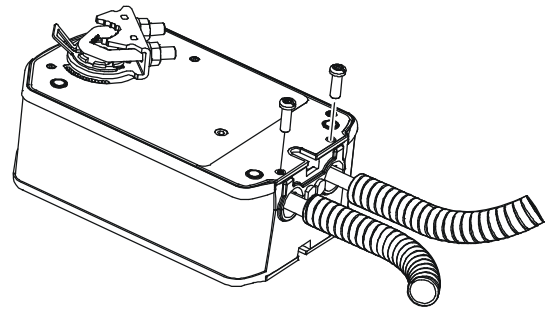

Figure 12: Adding flexible metal conduit
2. Push the conduit into the holes in the actuator and secure it with the supplied 10-32 x 9/16 in. screws, as illustrated in Figure 12. The product label marks the position of holes for the screws. Drive the screws through the product label in the marked positions. Drive the screwhead flush with the plate to secure the conduit.